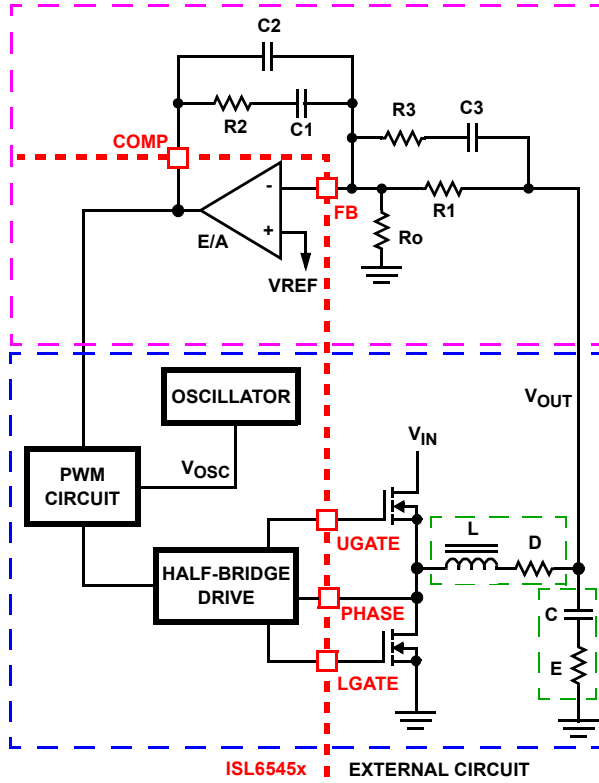

FIGURE 9. VOLTAGE-MODE BUCK CONVERTER COMPENSATION DESIGN
This section highlights the design consideration for a voltage-mode controller requiring external compensation. To address a broad range of applications, a type-3 feedback network is recommended, as shown in the top part of Figure 9.
Figure 9 also highlights the voltage-mode control loop for a synchronous-rectified buck converter, applicable to the ISL6545x circuit. The output voltage (V_{OUT}) is regulated to the reference voltage, V_{REF} . The error amplifier output (COMP pin voltage) is compared with the oscillator (OSC) modified sawtooth wave to provide a pulse-width modulated wave with an amplitude of V_{IN} at the PHASE node. The PWM wave is smoothed by the output filter (L and C). The output filter capacitor bank's equivalent series resistance is represented by the series resistor E.
The compensation network consists of the error amplifier (internal to the ISL6545x) and the external $R1$ - $R3$, $C1$ - $C3$ components. The goal of the compensation network is to provide a closed loop transfer function with high 0dB crossing frequency (F_0 ; typically 0.1 to 0.3 of F_{SW}) and adequate phase margin (better than 45°). Phase margin is the difference between the closed loop phase at F_{0dB} and 180°. The equations that follow relate the compensation network's poles, zeros and gain to the components ($R1$, $R2$, $R3$, $C1$, $C2$, and $C3$) in Figure 9. Use the following guidelines for locating the poles and zeros of the compensation network:
1. Select a value for $R1$ (1kΩ to 5kΩ, typically). Calculate value for $R2$ for desired converter bandwidth (F_0). If setting the output voltage via an offset resistor connected to the FB pin, R_o in Figure 9, the design procedure can be followed as presented.